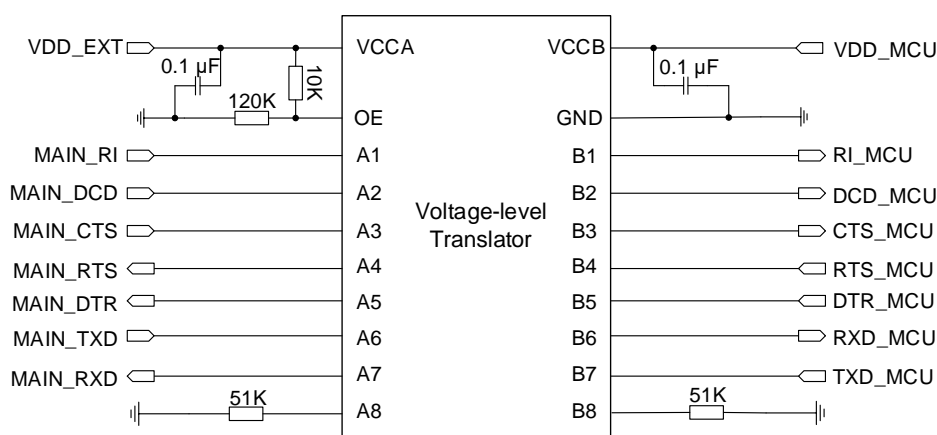
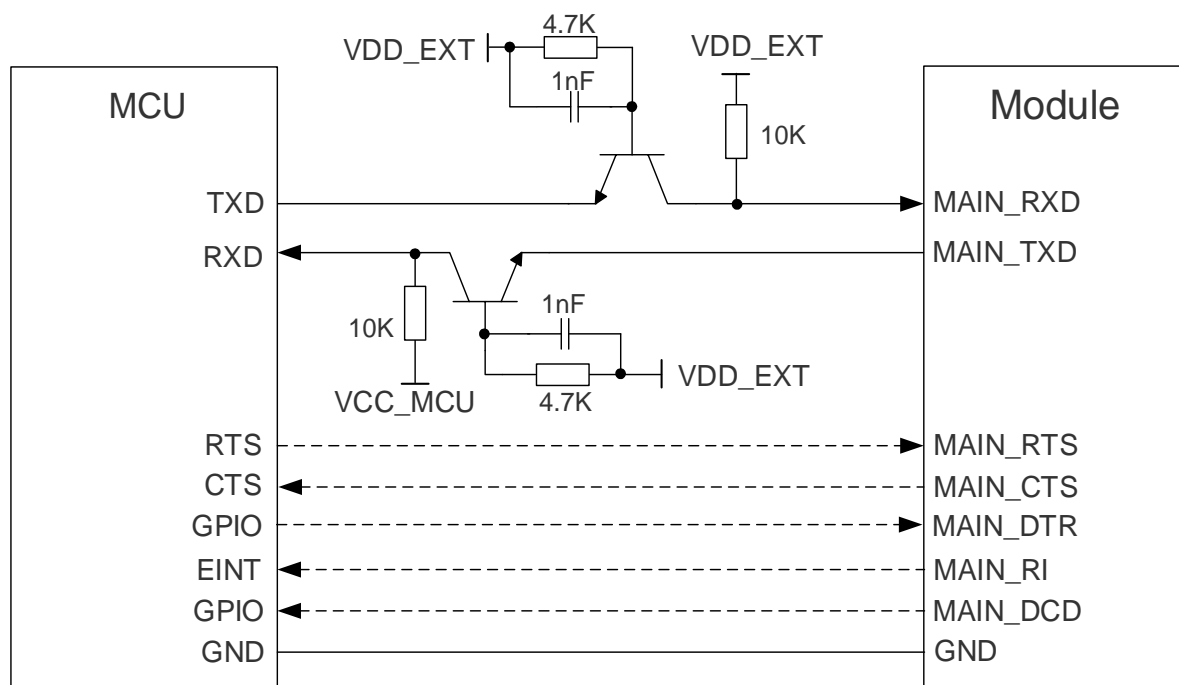

Figure 23: Main UART Reference Design (IC Solution)
Figure 24: Main UART Reference Design (Transistor Solution)
4. The level-shifting circuits (**Figure 23** and **Figure 24**) take the main UART as an example. The circuits of the debug UART and the auxiliary UART are connected in the same way as the main UART.